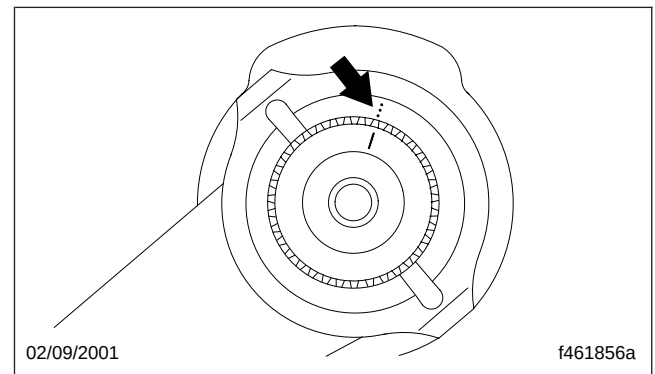

Fig. 1, Timing Mark Alignment
1. Align the timing marks on the pitman arm with the timing marks on the sector shaft. See Fig. 1. Install the pitman arm on the sector shaft.